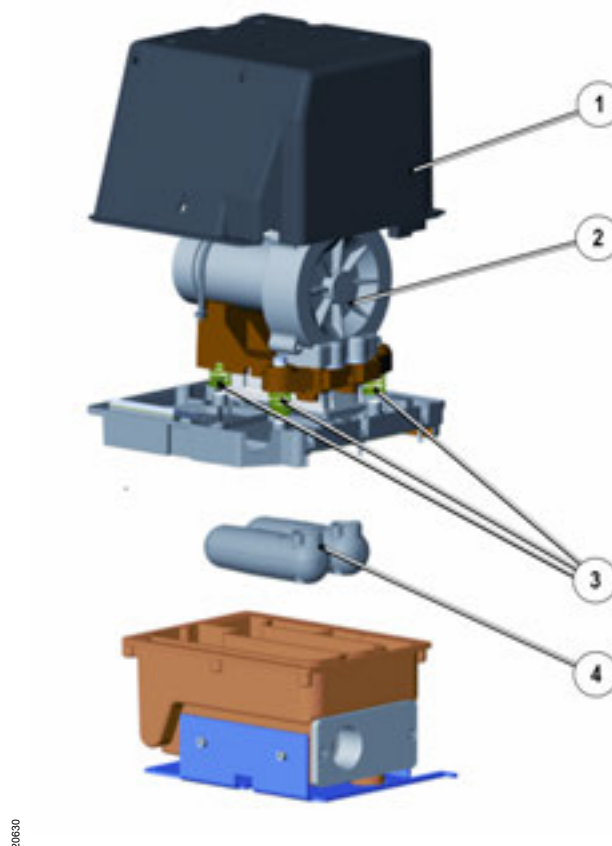

Fig. 24 Noise reduction measures
- Sound-proof hood (Fig. 24/1) made of plastic and interior lined with foam insert
- Motor blower unit (Fig. 24/2) isolated from housing by spring suspension (three spiral springs (Fig. 24/3))
- New tubular silencers (Fig. 24/4) in the mixing chamber